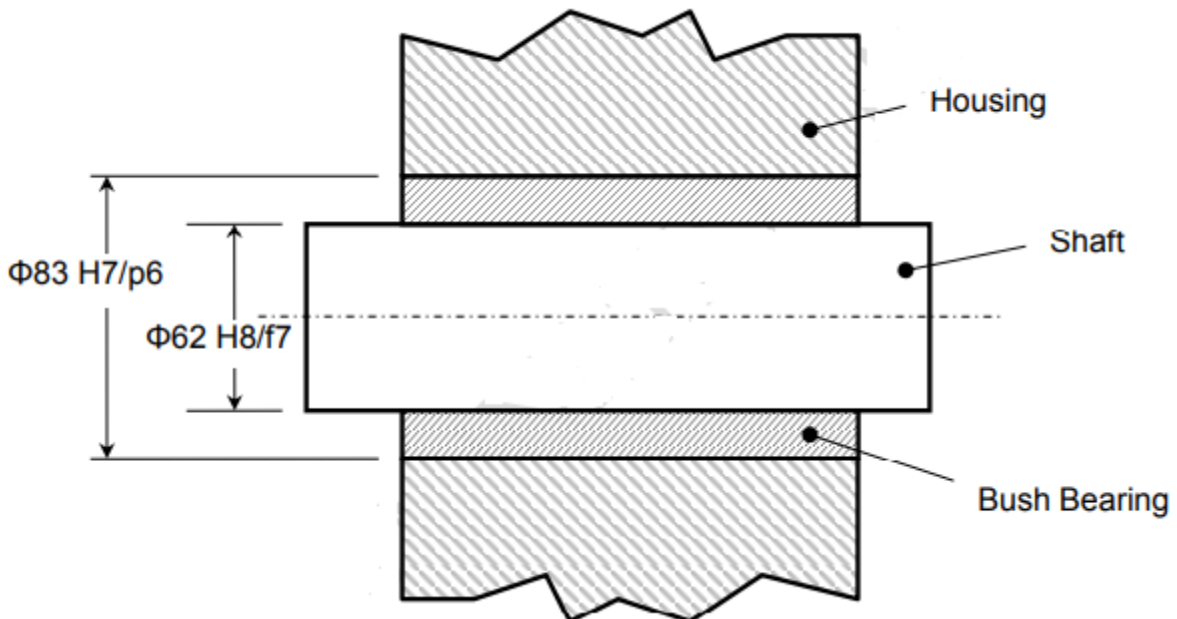

Figure 4
4. Drawn below in figure 4 is a cross-section through a Shaft, Bush Bearing and Housing arrangement. Select fits that allow and fill the data in Table Q4 below.